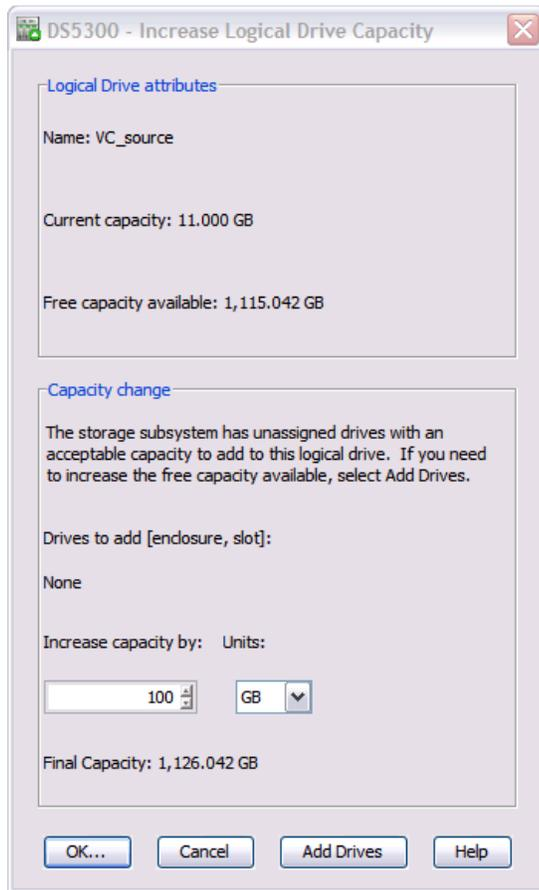

Figure 3-21 Increase logical drive capacity
2. Click **OK** on the Additional Instruction dialog. An Increase Logical Drive Capacity window appears as shown in Figure 3-21.